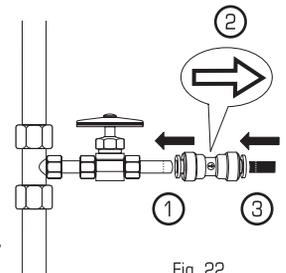

Fig. 22
6. Connect the tube from the cold water supply to the screen side of the Supply Connector (1). Arrow in balloon shows water flow direction (2). Insert the RED tube attached to the Auxiliary Faucet into the opposite end of the Supply Connector (3) (Fig. 22).